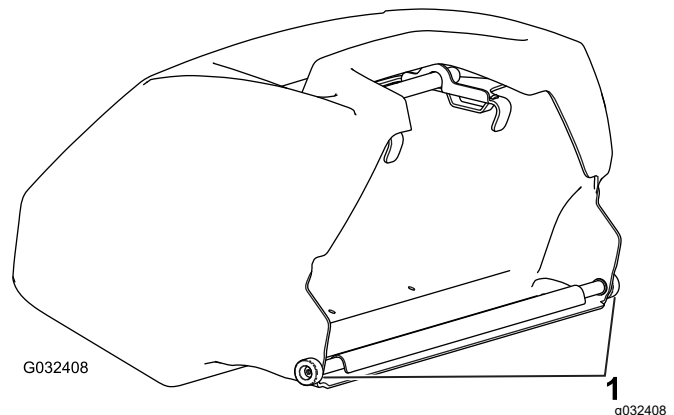

Figure 12
**Important:** If you drop the basket, examine the pitch-arm contact points near the lower lip of the basket for damage (Figure 12). Straighten them before using the basket.